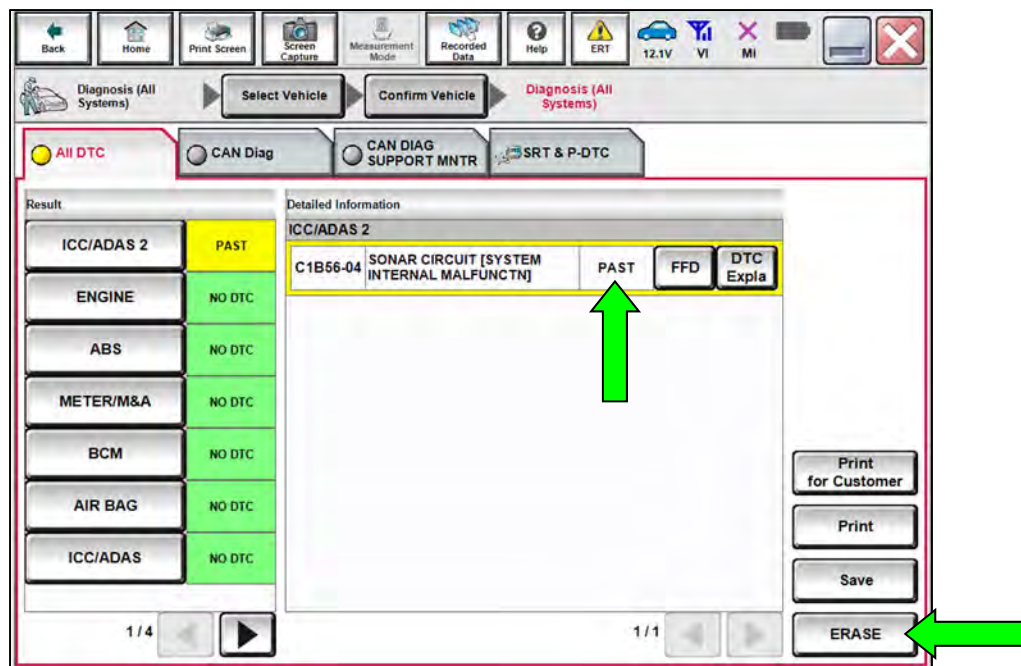

Figure 39
68. Confirm DTC C1B56-04 is displayed as **PAST** (not **CRNT**) (Figure 39).